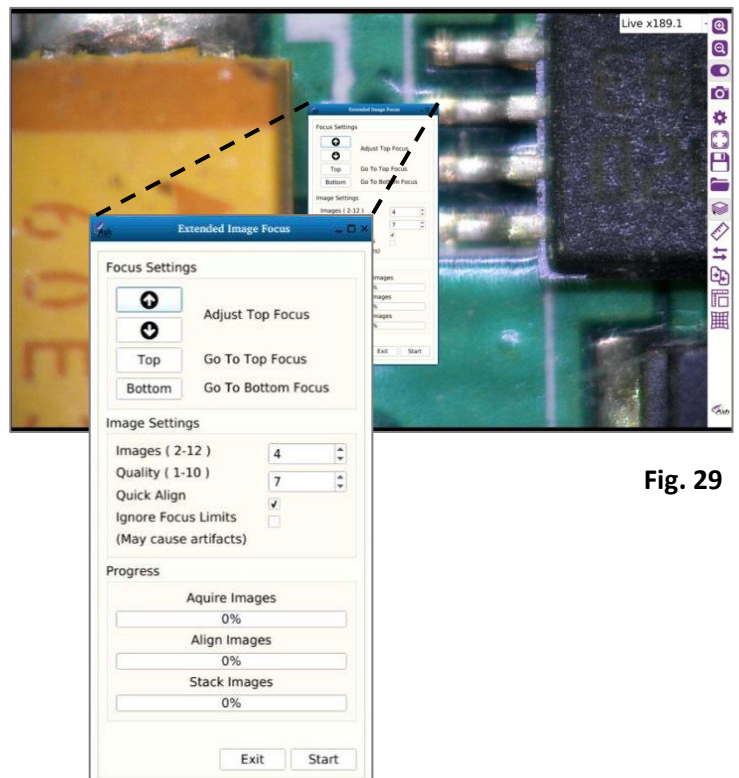

Fig. 29
1. Click on the Image Stacking icon. This will display the Extended Focus window (Fig.29).